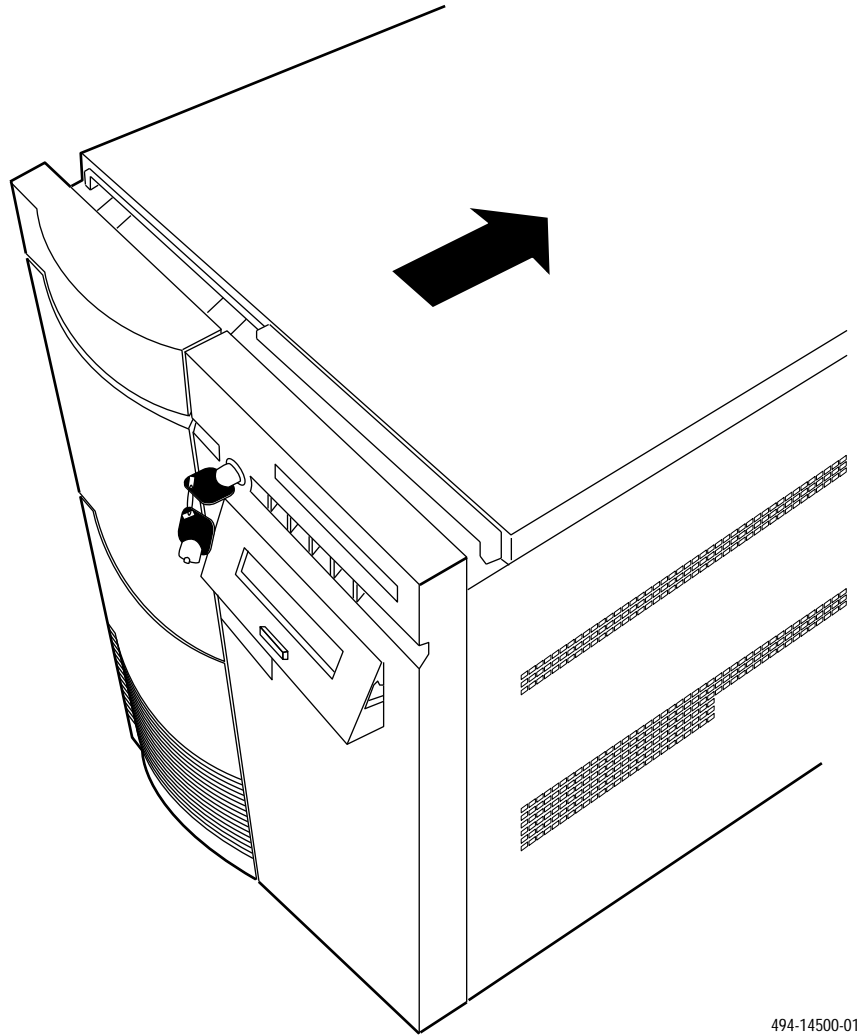

Figure 2-15. System 15000 — Removing the Top Cover
1. Slide the top cover towards the rear of the chassis approximately .75", as shown in Figure 2-15, until the locking pins on the underside of the cover disengage. Lift the cover straight up and set it aside.